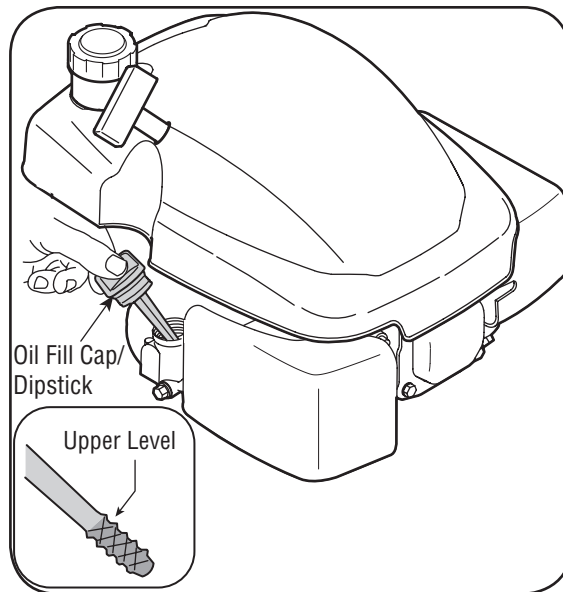

Figure 9-2: Checking the oil level.
2. Insert the dipstick into the engine block, but do not screw it in. See Figure 9-2.